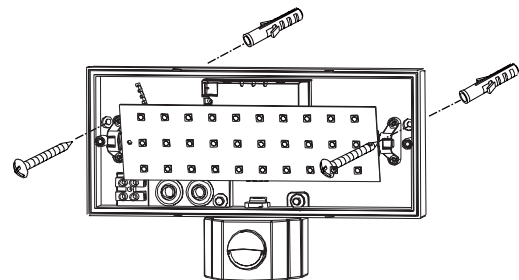

**Fig.3**
- Step3 Connect the cable to the lamp through the cable entry openings(as Fig.3)